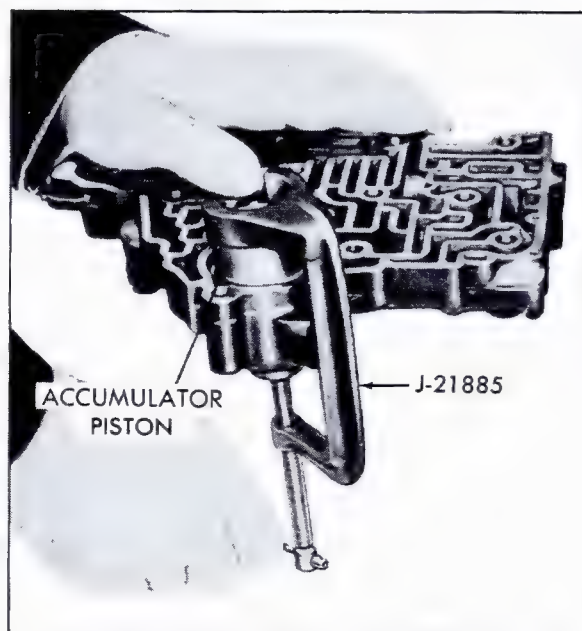

Fig. 7-65 Removing Front Accumulator Piston
3. Install Control Valve Accumulator Piston Installer, J-21885, on accumulator piston, compress piston and remove E-ring retainer, Fig. 7-65.